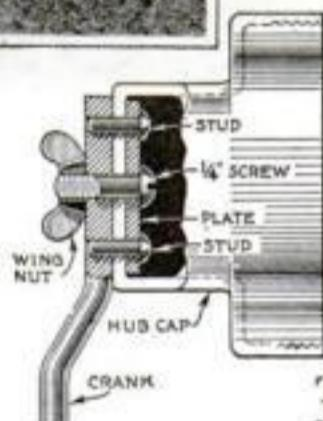

Fig. 1. By this arrangement the engine is used to pump up the air mattress
F. R. GORTON, of Ypsilanti, Mich., wins the \$10 prize this month for his suggestion of an air mattress inflating method (Fig. 1). Each month POPULAR SCIENCE MONTHLY awards \$10, in addition to regular space rates, to the reader sending in the best idea for motorists. Other published contributions will be paid for at the usual rates.